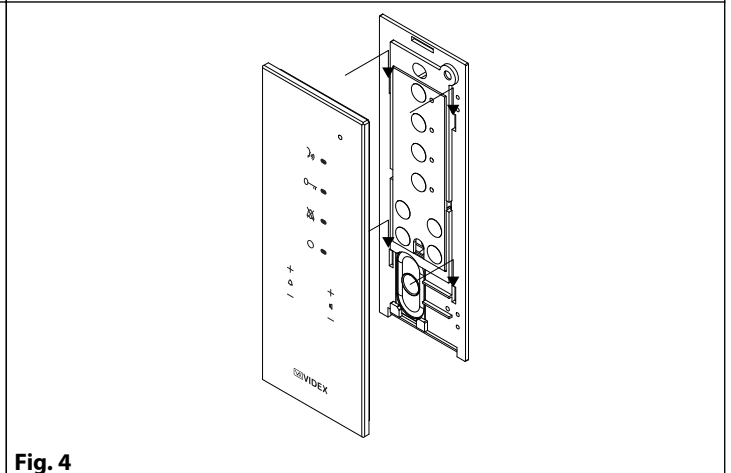
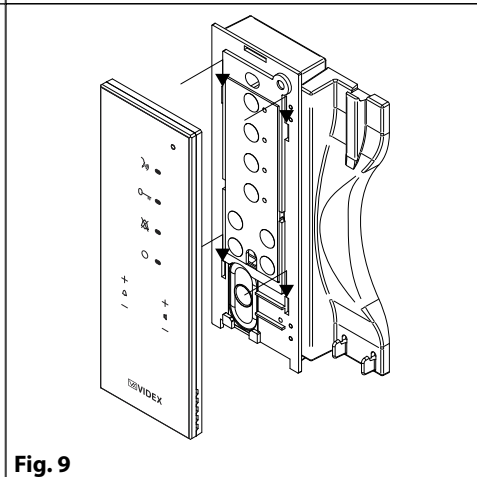
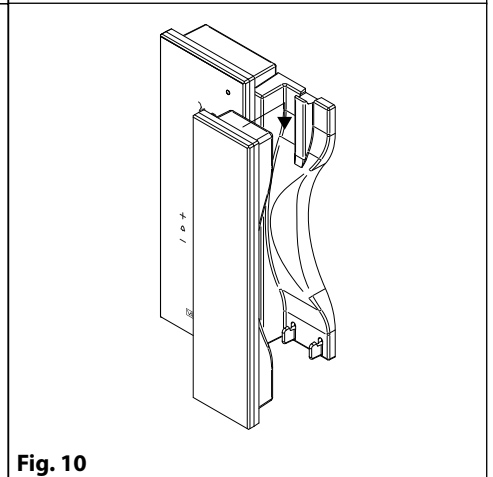

Fig. 4
Fig. 9
Fig. 10
4. Once the intercom is fixed to the flush mounting box, place the front plate against the intercom by inserting the hooks in the corresponding openings and hook the plate by pushing it down as shown in **Fig. 4**.
4. Once the intercom is fixed to the wall, place the front plate against the intercom by inserting the hooks in the corresponding openings and hook the plate by pushing it down as shown in **Fig. 9** and hang the handset as shown in **Fig. 10**.
- Remove the front plate doing the contrary of what is shown in **Fig. 4** and **Fig. 9**;
- Hang up the front plate as shown in **Fig. 4** and **Fig. 9** before the display turns off;